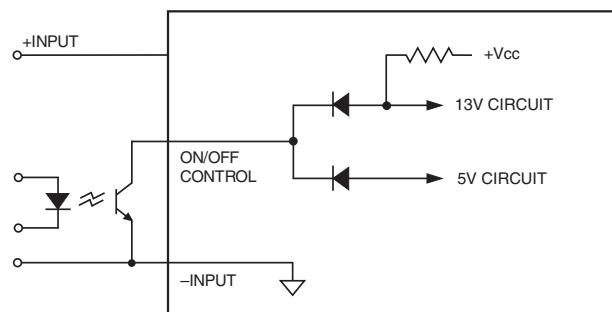

Figure 6. Driving the Negative Polarity On/Off Control Pin (simplified circuit)
**Positive** ("P" suffix) polarity models are enabled when the on/off pin is left open (or is pulled high, applying +3.5V to +15V with respect to -Input) as per Figure 6. Positive-polarity devices are disabled when the on/off pin is pulled low (0 to 1V with respect to -Input).
**Negative** ("N" suffix) polarity models are off when pin is left open (or pulled high, applying +2.5V to +15V), and on when pin is pulled low (-0.1 to +0.8V) with respect to -Input as shown in Figure 6.